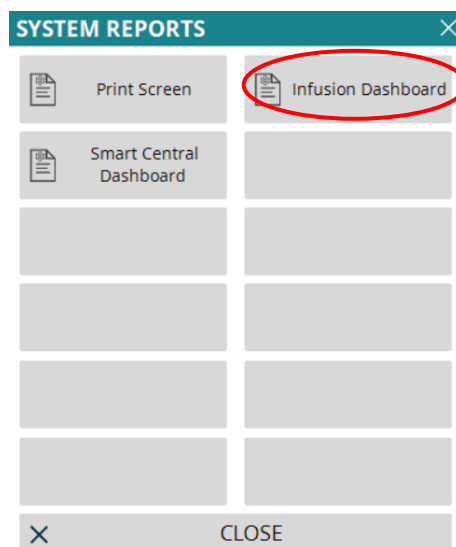

Fig 31
The following menu is displayed (Fig 31).
- Click **Dashboard** (Fig 31).